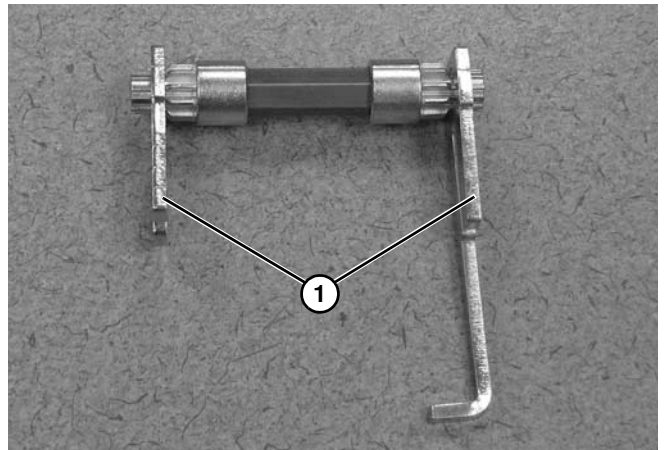

Figure 91
6. Slide on retaining plates (**Figure 91, item 1**).